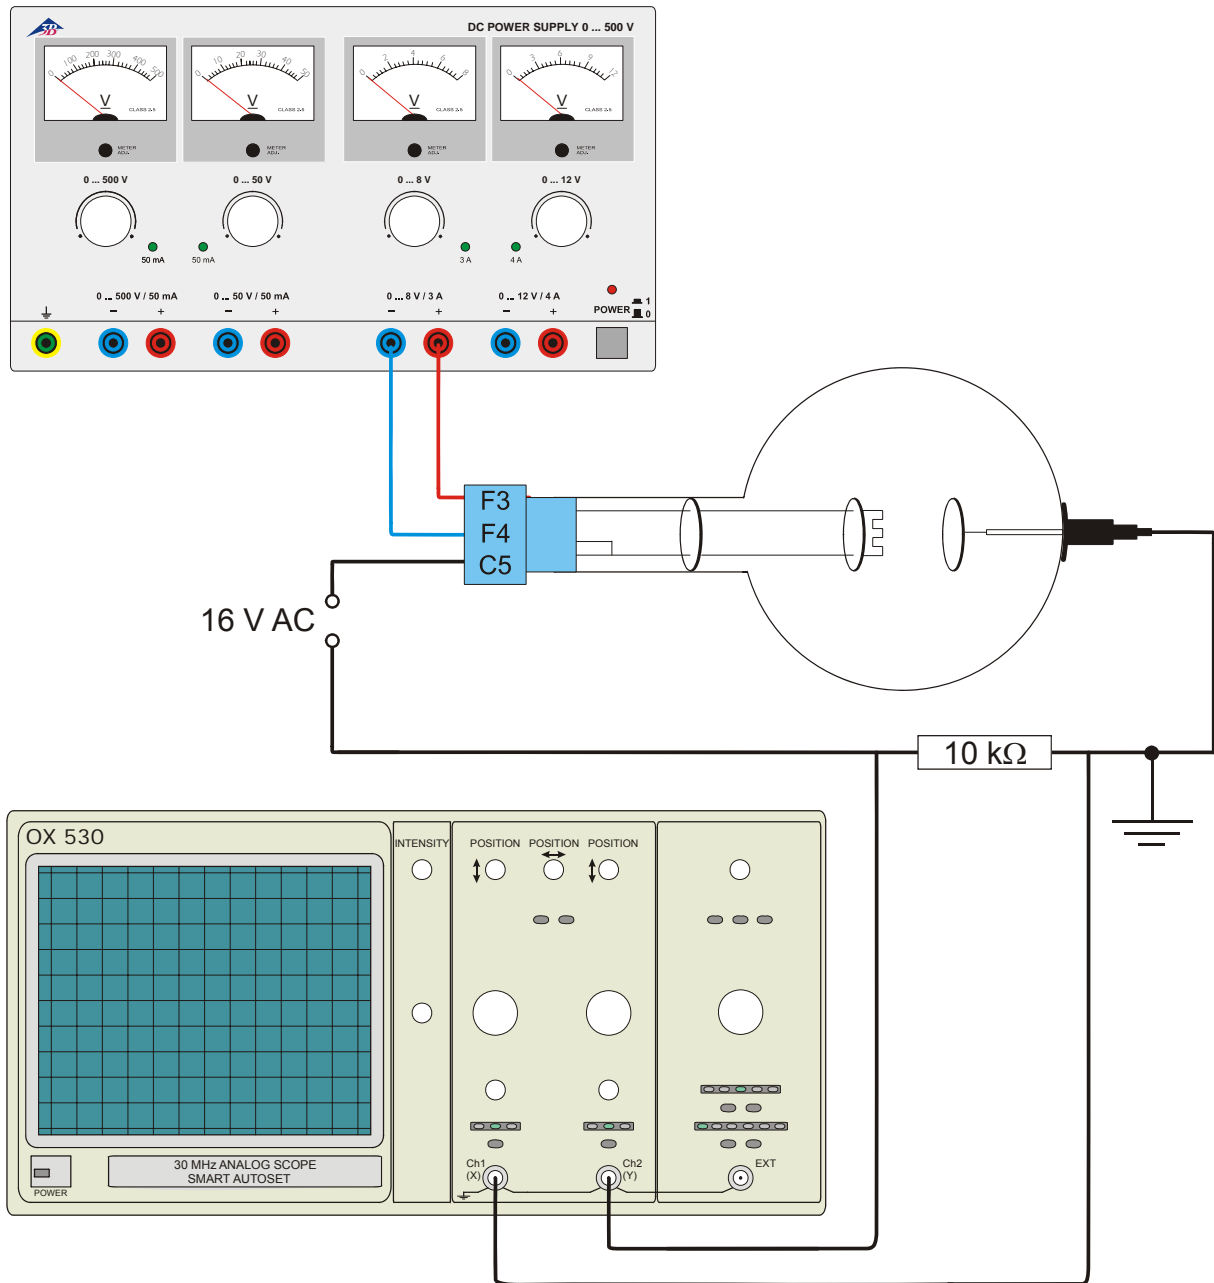

Fig. 3 Diode rectifier
- Set up the circuit as in Fig. 3 with  $U_F = 6.3 \text{ V}$  and  $U_A = 16 \text{ V AC}$ .